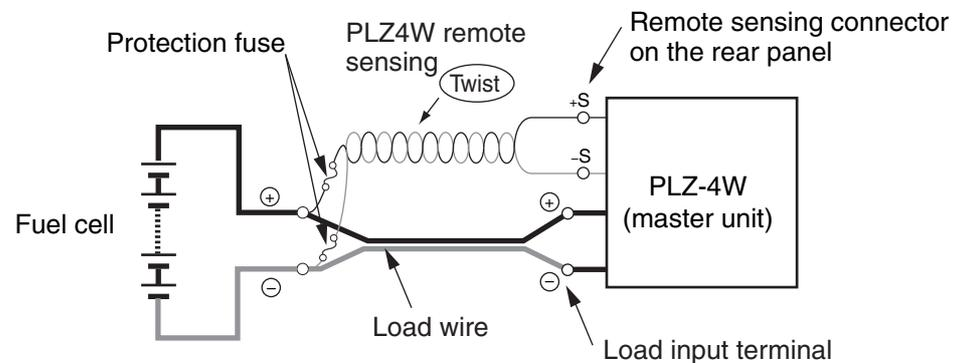

Fig. 2-6 PLZ4W remote sensing wiring
- ⚠ CAUTION** • If the load wire comes loose while using PLZ4W remote sensing, the sensing wire or the PLZ-4W remote sensing circuit may break. Accidents can be prevented by connecting a protection fuse as shown in Figure 2-6. Use a fuse with a rated current of 0.5 A and a rated voltage greater than or equal to the output voltage of the fuel cell.